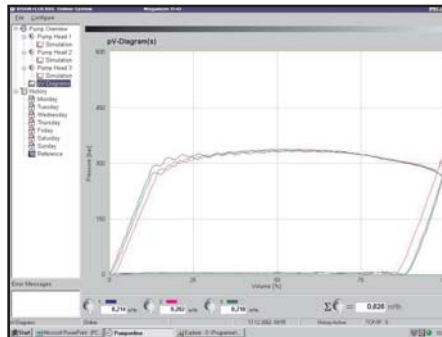

Figure 4: pV-diagrams of all pump heads
- The pV-diagrams of all pump heads for comparison with each other (Figure 4).